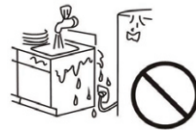

Fig2
- Do not install the appliance in a moist and wet place. See figure 2.